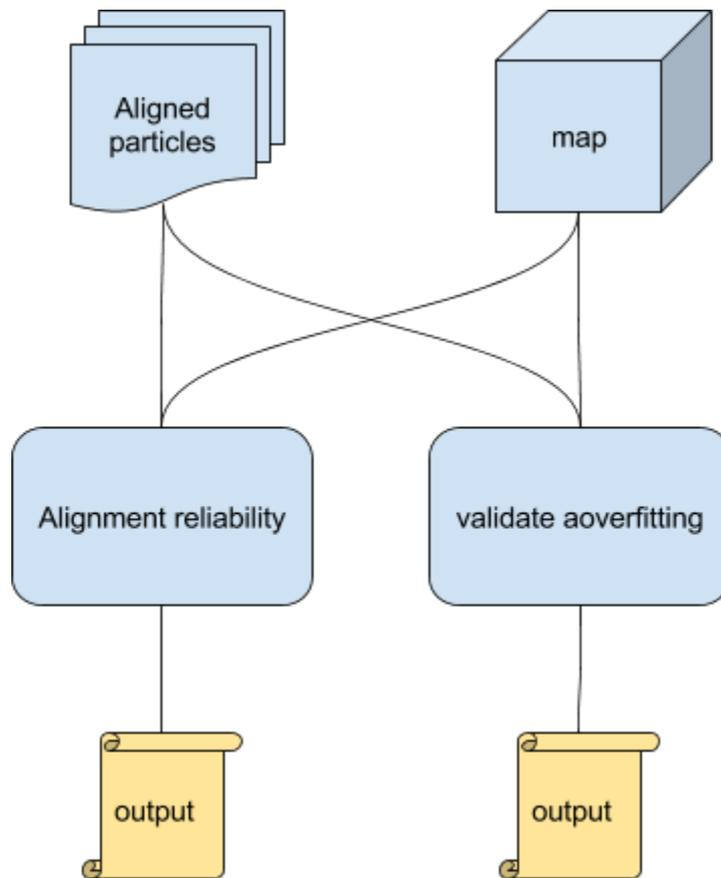

Figure 1. Reliability workflow diagram
We propose a workflow to test how reliable is a cryoEM map compared to the images of the macromolecules that were used to generate it (referred to as “particles” [3]). We are using 2 methods [1] in the proposed workflow, referred to as “validate against overfitting” (1) and “alignment reliability” (2). The rationale behind providing two different methods in the workflow is to add an extra level of confidence in the consistency between the particles and the map obtained. In both cases, result are necessary but not sufficient, in the sense that a bad result in any of them will tell that the reconstruction is not very consistent. On the contrary good results do not imply that the reconstruction is good. The two of them make use of a set of aligned particles and assess the consistency between particles and maps. The overall workflow will look like the one in Figure 1: